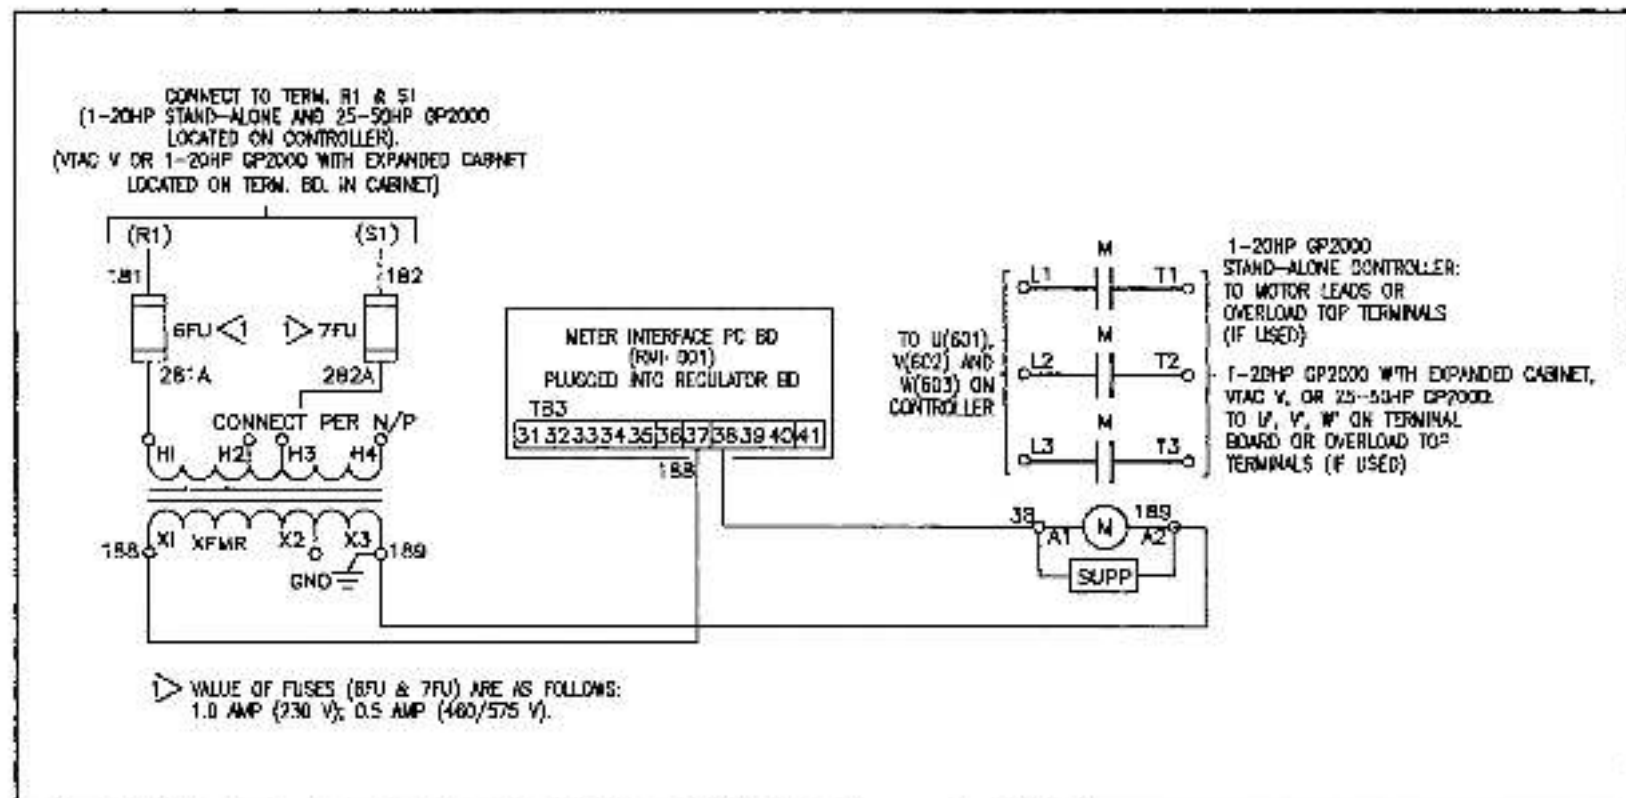
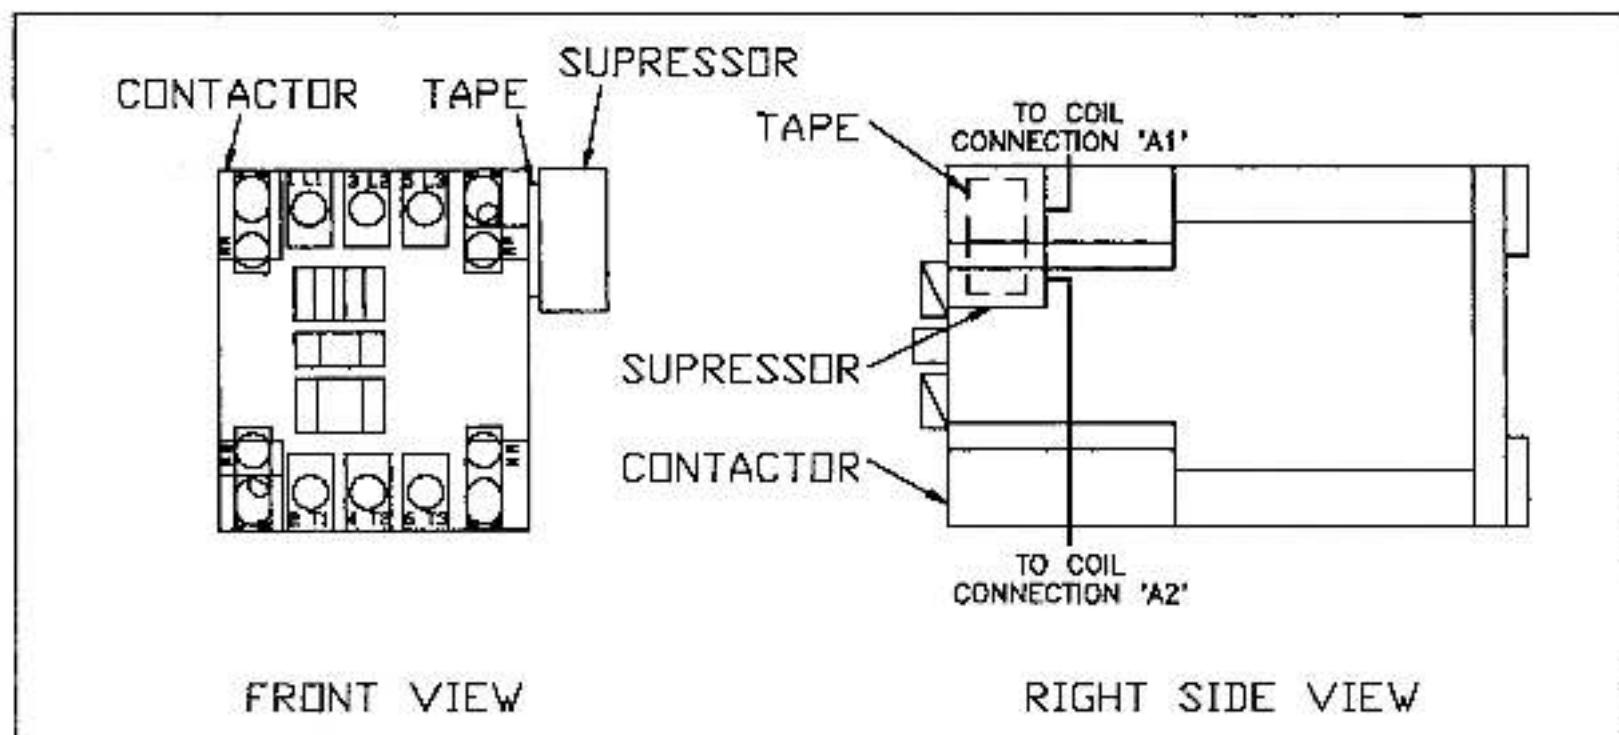
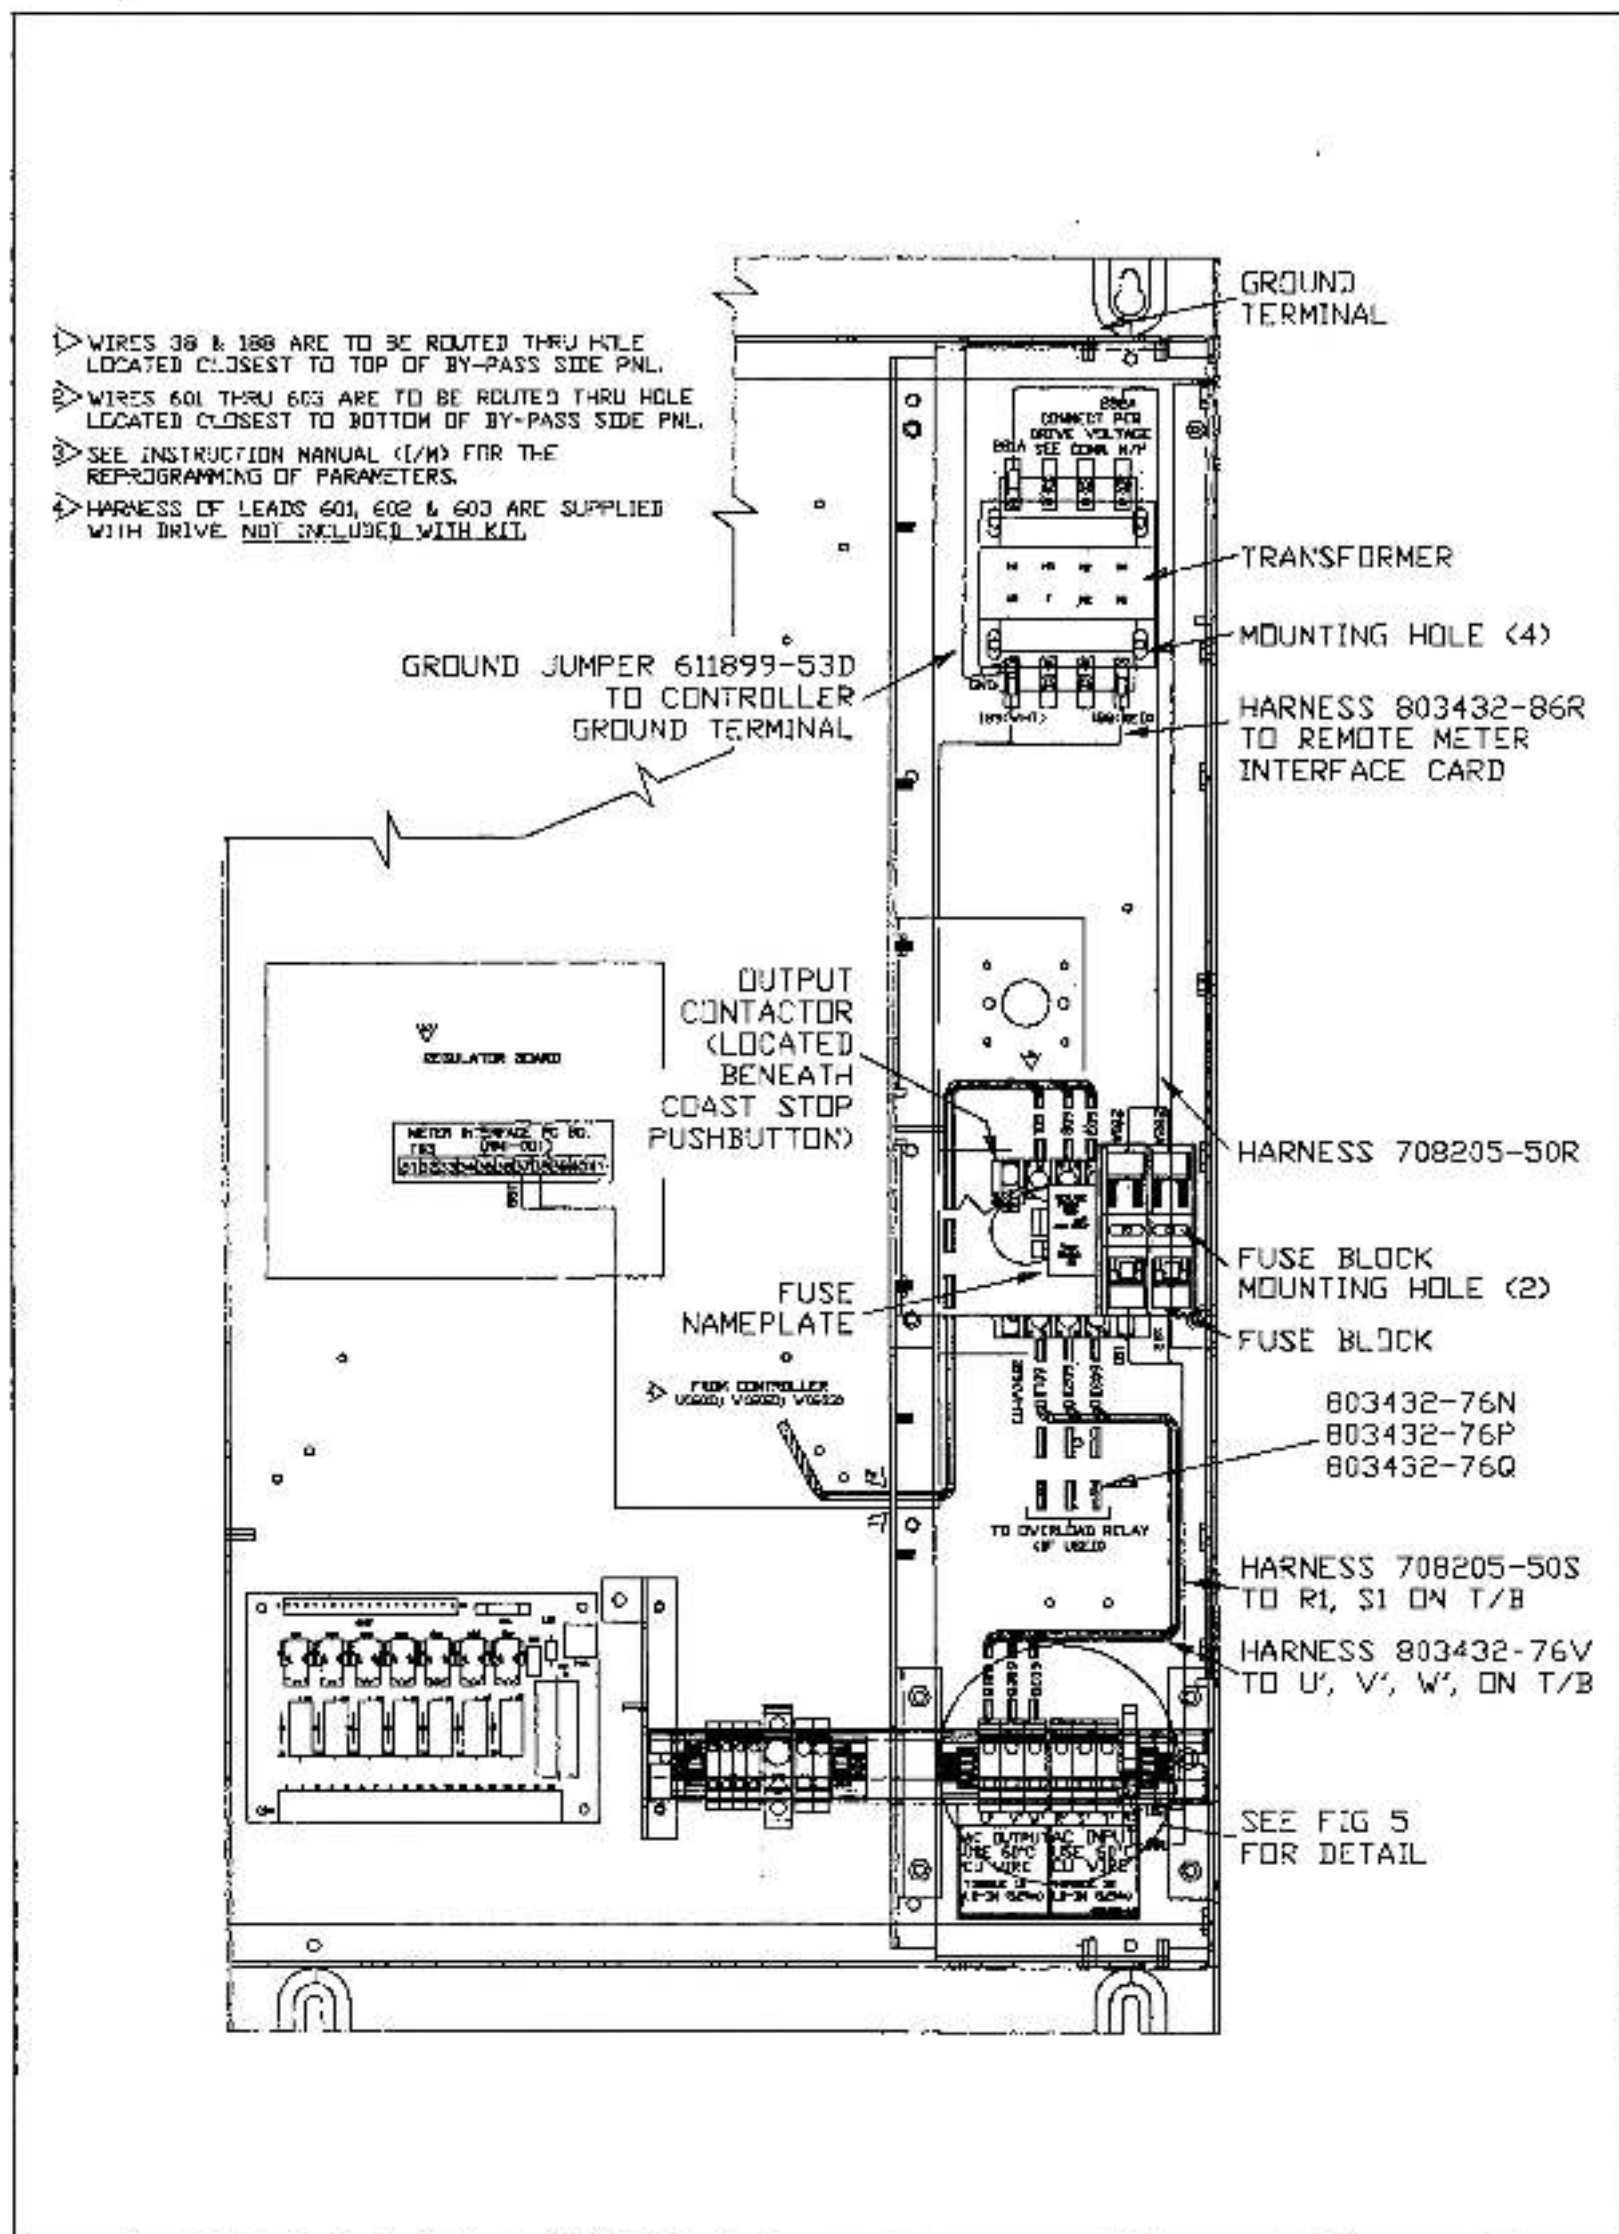
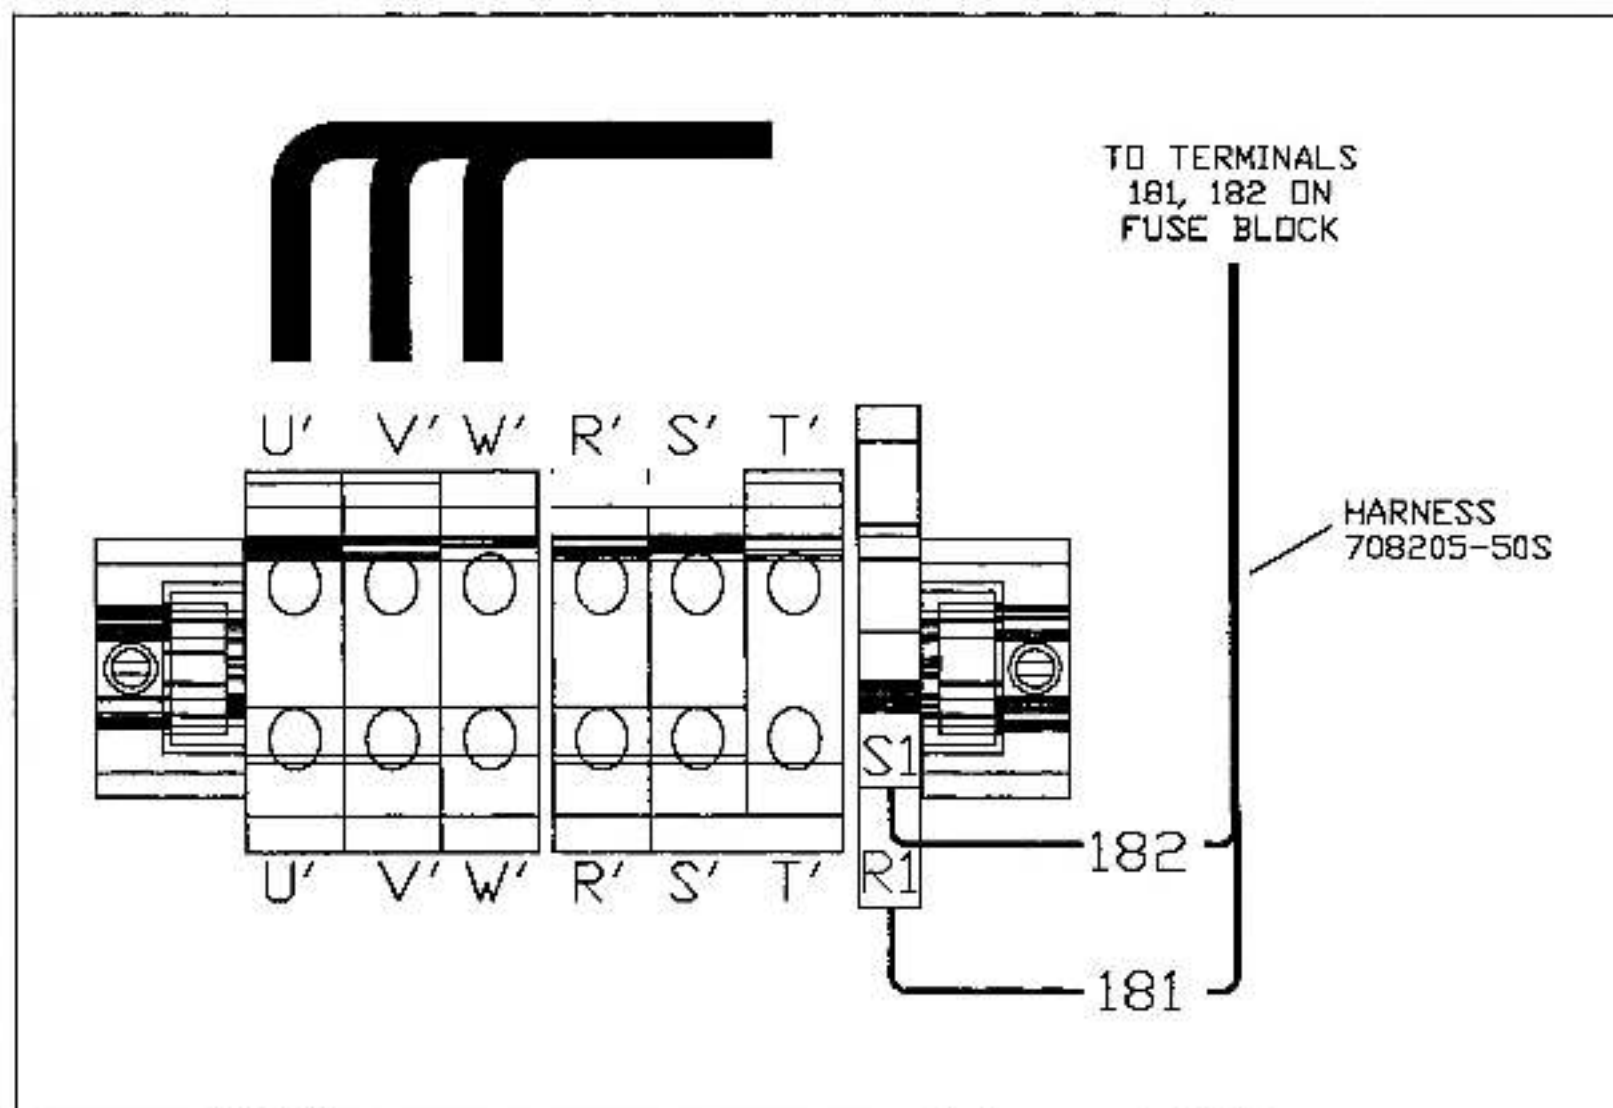

Figure 2. Output Contactor Kit Wiring Diagram – GP2000, Expanded Cabinet, and VTAC V Controllers.
Figure 3. Suppressor Location on Contactor.
Figure 4. Contactor, Transformer, and Fuse Block Mounting Locations - 1-20 HP GP2000 with Expanded Cabinet or 1-20 HP VTAC V.
Figure 6. R1, S1 Terminal Block Wiring Locations.
3. Connect the fuse block. (Refer to Figure 2 and to the connection diagram on the transformer nameplate.)
- c. Using jumper wire 611899-53D, connect transformer terminal X3 (189) to a suitable equipment ground. See Figure 2.
5. Connect the transformer to the Remote Meter Interface Card and contactor coil. (Refer to Figure 2.)
- a. Using wire harness 803432-86R (or user-supplied wiring), connect transformer terminal X1 (188) to terminal 37 (188) on the Remote Meter Interface Card. Connect transformer terminal X3 (189) to contactor coil connection A2 (189). Connect terminal 38 on the Remote Meter Interface Card to contactor coil connection A1 (38).
6. Install the suppressor (part 611899-10R) in the top right corner of the contactor using the tape provided (part 417923-AF) as shown in Figure 3. Connect the two suppressor leads to contactor coil connections A1 and A2 according to Figure 2.
7. Connect the output contactor. (Refer to Figure 2.)
1. Mount the contactor, transformer, and fuse block as shown in the appropriate Figure 4 or Figure 5.
- d. Mount the transformer: Refer to Figure 4 for 1–20 HP (or to Figure 5 for 25–50 HP) for mounting location. Mount the transformer with the four (4) M5 x 10 TTS screws provided.
- e. Mount the fuse block: Install mounting bracket 708205-47A (708205-8A for 25–50 HP) to the three studs on the side of the kit mounting channel using the three (3) M4 nuts provided. Refer to Figure 4 or Figure 5 for mounting location. Mount the fuse block with the two (2) M4 x 10 TTS screws provided. Mount the replacement fuse nameplate for fuses 6FU and 7FU beside the fuse block. Select the 1.0 amp nameplate for 230-volt operation; select the 0.5 amp nameplate for 460/575-volt operation.
4. Connect the fuse block. (Refer to Figure 2 and to the connection diagram on the transformer nameplate.)
- a. Using wire harness 708205-50S, connect terminal 181 of the fuse block to terminal R1 on the terminal block. Connect terminal 182 on the fuse block to terminal S1 on the terminal block. Refer to Figure 6 and to Figure 2 for connection locations.
- c. Using jumper wire 611899-53D, connect transformer terminal X3 (189) to the ground terminal located at the top of the cabinet. Refer to Figure 4 or Figure 5 and to Figure 2 for the ground terminal location.
6. Connect the transformer to the Remote Meter Interface Card and contactor coil. (Refer to Figure 2 and to Figure 4 or Figure 5 for wiring detail and routing.)
- a. Using wire harness 803432-86R, connect transformer terminal X1 (188) to terminal 37 (188) on the Remote Meter Interface Card.
7. Install the suppressor (part 611899-10R) in the top right corner of the contactor using the tape provided (part 417923-AF) as shown in Figure 3. Connect the two suppressor leads to contactor coil connections A1 and A2 according to Figure 2.
- a. Connect controller output terminals U, V, and W to contactor top terminals L1, L2, and L3, respectively, using existing harness labeled 601, 602, 603. See the applicable instruction manual for wiring detail. See Figure 4 or Figure 5 for routing note.
- b. Using wire harness 803432-76V (803432-87RW for 25–50 HP), connect contactor bottom terminals T1, T2, and T3 to the top of output terminals U', V' and W', respectively, on the controller terminal block. Refer to Figure 4 or Figure 5.
- b. Using wire jumpers 803432-76N (803432-87N for 25–50 HP), 803432-76P (803432-87P for 25–50 HP), and 803432-76Q (803432-87Q for 25–50 HP), connect contactor bottom terminals T1, T2, and T3 to overload top terminals 601, 602, and 603, respectively, on the overload block. Refer to Figure 4 or Figure 5.
- c. Using wire harness 803432-76V (803432-87RW for 25–50 HP), connect overload bottom terminals 601A, 602A, and 603A, to the top of output terminals U', V', and W', respectively, on the controller terminal block. Refer to Figure 4 or Figure 5.